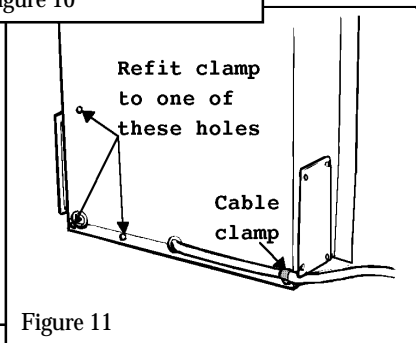

Figure 11
6.6.2 Remove the fan cable clamp from the rear left of the convection box. Replace the screw thus removed into the convection box. Clamp the cable at one of the screws at the right side of the box (see figure 11).